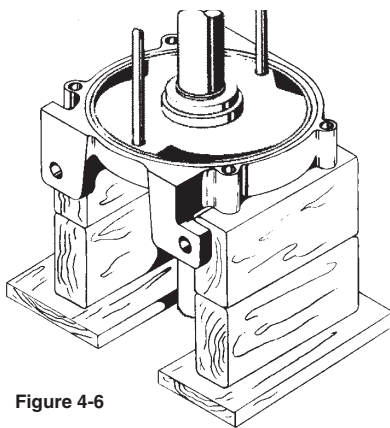

Figure 4-6
6. For the remaining operations, it is recommended that the assembly be placed on blocks in a vertical position with the coupling end of the shaft facing downward. (refer to figure 4-6)